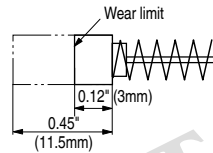

Fig. 11
6. Inspecting the carbon brushes (Fig. 11)